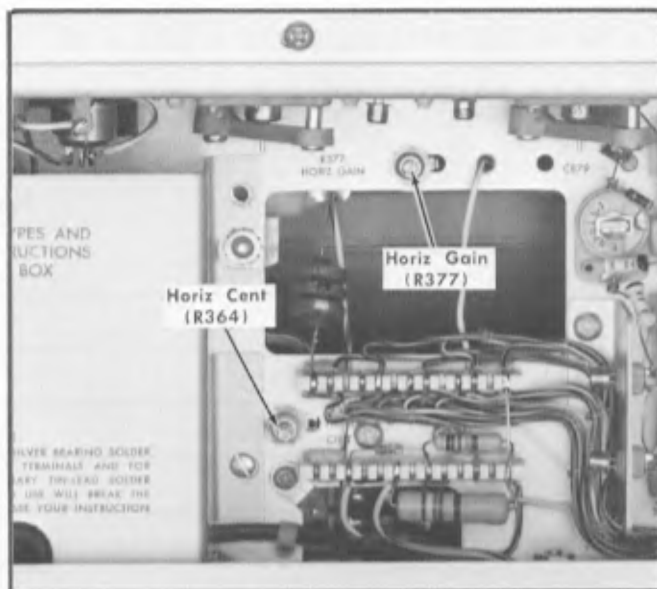

Fig. 6-15. Location of Horiz Cent control, R364 and Horiz Gain control, R377.
f. ADJUST—Horiz Cent control, R364 (see Fig. 6-15), so the spot rests on the first centimeter vertical graticule line.
i. ADJUST—Horiz Gain control, R377 (see Fig. 6-15), to correct for one-half the error observed in part h, then repeat parts e through i of this step until exactly 8 centimeters of deflection is observed between the 1 and 9 positions of the vertical-horiz cal switch on the 067-0544-00.